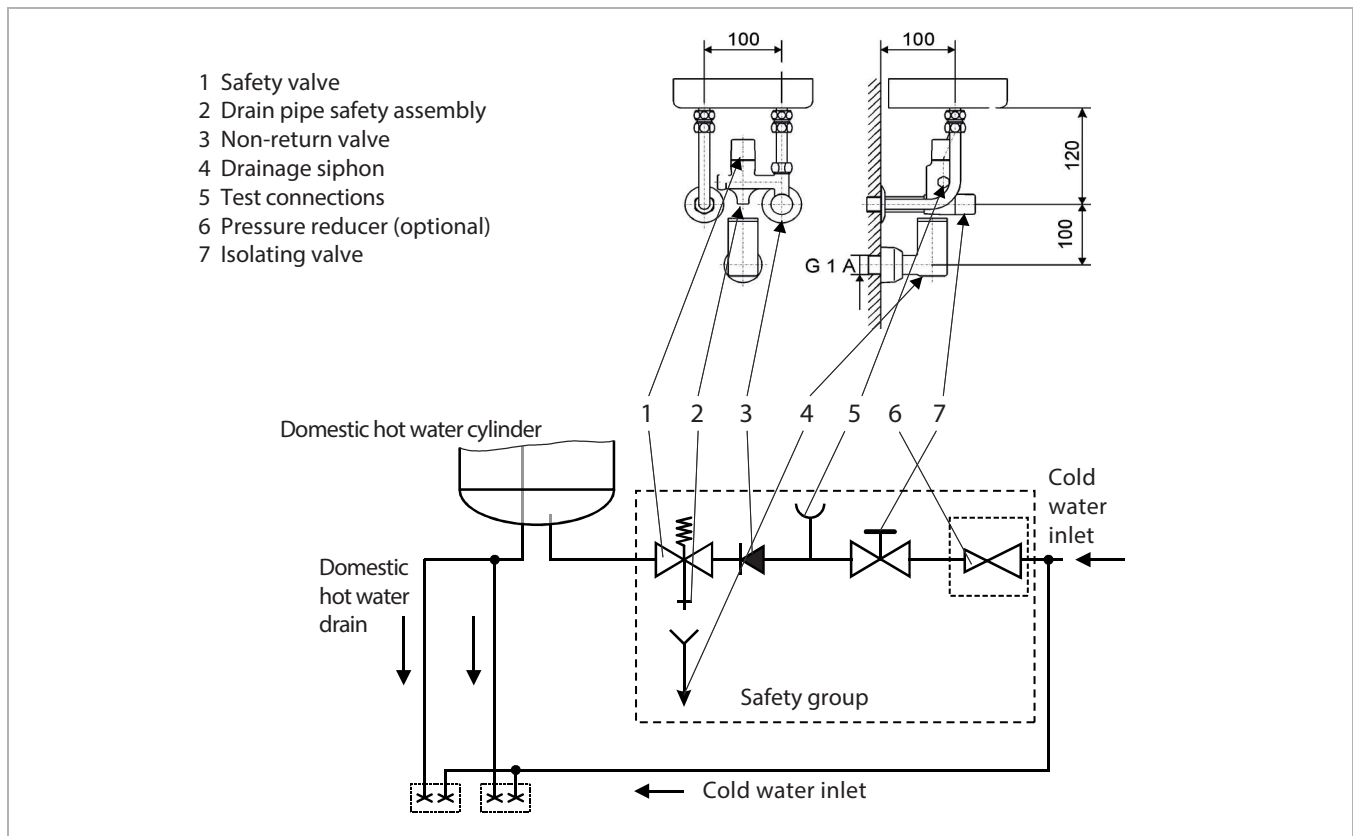

Fig. 2: Water connection in the closed system
- A type-tested safety assembly (see Fig. 2) in accordance with DIN 1988 must be installed in the cold water inlet.